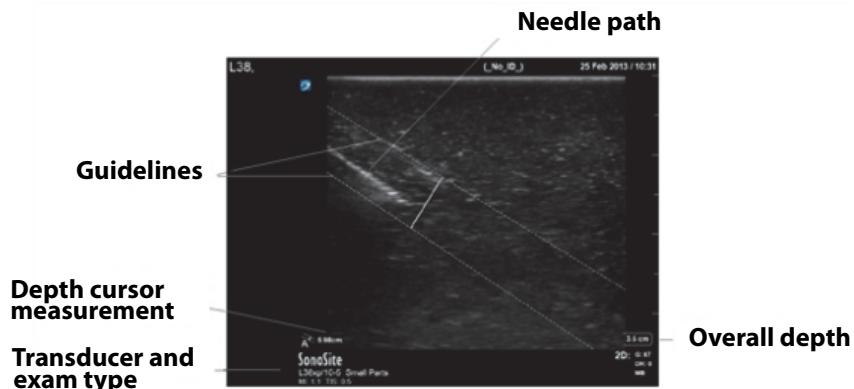
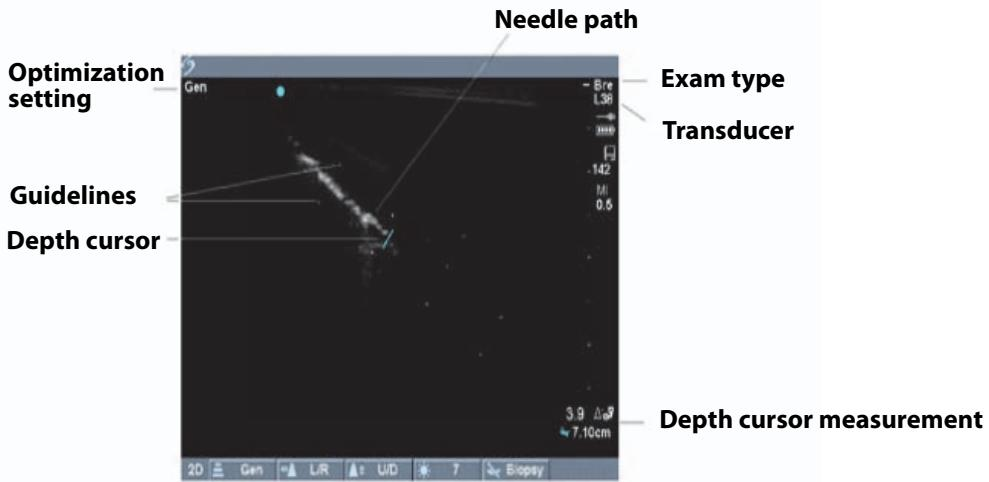

Figure 3 In-plane guides on the SonoSite X-Porte system
Figure 4 In-plane guides on the MicroMaxx or TITAN system
- 8 Verify that the needle, as shown on the system display, is between the guidelines. See Figure 3, “In-plane guides on the SonoSite X-Porte system” on page 10 and Figure 4, “In-plane guides on the MicroMaxx or TITAN system” on page 11.
The depth cursor measurement shown on the ultrasound system measures the distance from the tip of the needle to the origin of the needle guide. See Figure 3 and Figure 4.